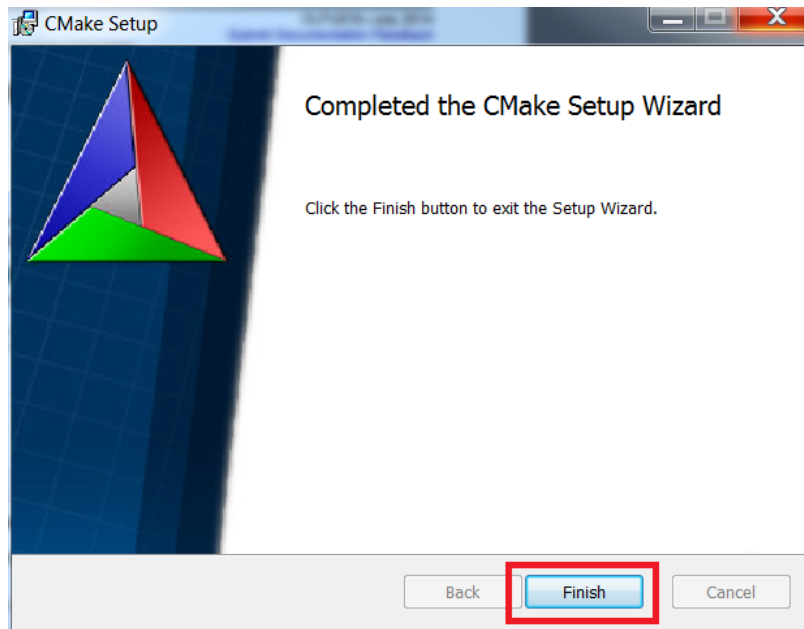

Figure 20. CMake Finished
- Click "Finish" as shown in Figure 20 and CMake is now installed.